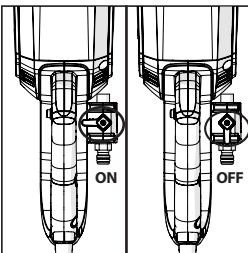

FIG. 6c
- Open the water valve to feed water to the blade. The rate of flow can be adjusted by the water valve on the saw. **(Fig. 6c)**
- After finishing the cut, switch off the machine, turn the water valve (3) off to stop flow of water to the blade.